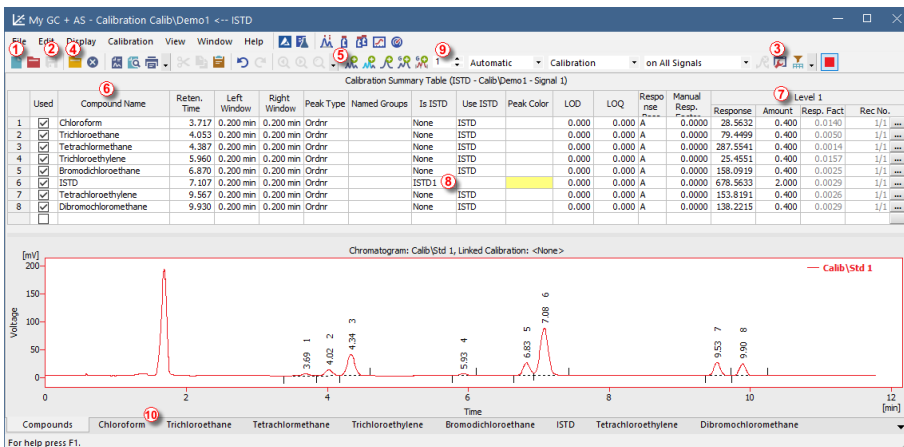

Fig 14: Calibration window - loaded standard
Use the **Add All** icon (blue) ⑤ to move all identified peaks to the calibration table. The Calibration table appears in the **Calibration** window, ready to be completed as seen on **Fig 14** on pg 22.
As it can be seen in the calibration, individual peaks are now identified according to their retention times only. Click and edit the fields in the **Compound Name** column ⑥ to those seen on **Fig 14** on pg 22. You may also set the peak color for specific peak, for example the ISTD peak, in the **Peak Color** column can be yellow.